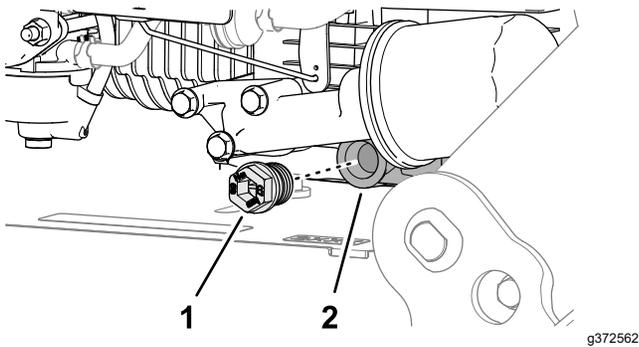

Figure 32
5. Remove the oil-drain plug from the drain port of the engine (Figure 32), and tip the machine so that the oil flows into the pan.
2. Place a rag under the oil filter (Figure 32) to catch oil when you remove the filter.